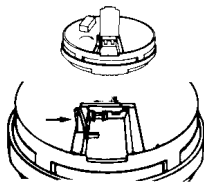

Fig. 3
- 5.7 When installing the battery, press the battery reminder finger down into the battery compartment and install the battery (see Figure 3).